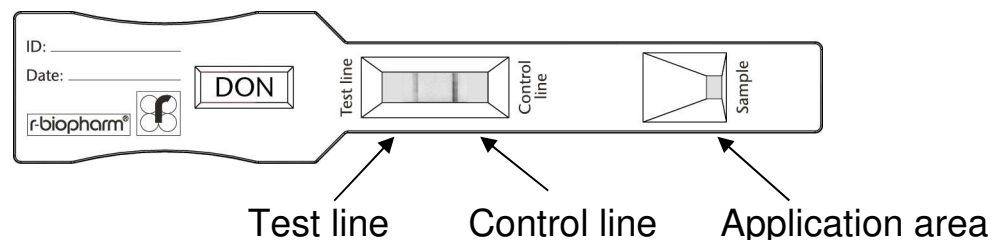

Fig. 1: RIDA®QUICK DON RQS ECO test strip.
- Apply 100 µl of the sample solution (see chapter 8. Sample preparation) on the application area of the test strip (see Fig. 1).
The left line in the reaction area is the test band (test line, see fig. 1). Its appearance and intensity depends on the DON concentration of the sample. The sample is contaminated with DON, if the control band (control line) is visible and the test band (test line) is also visible.